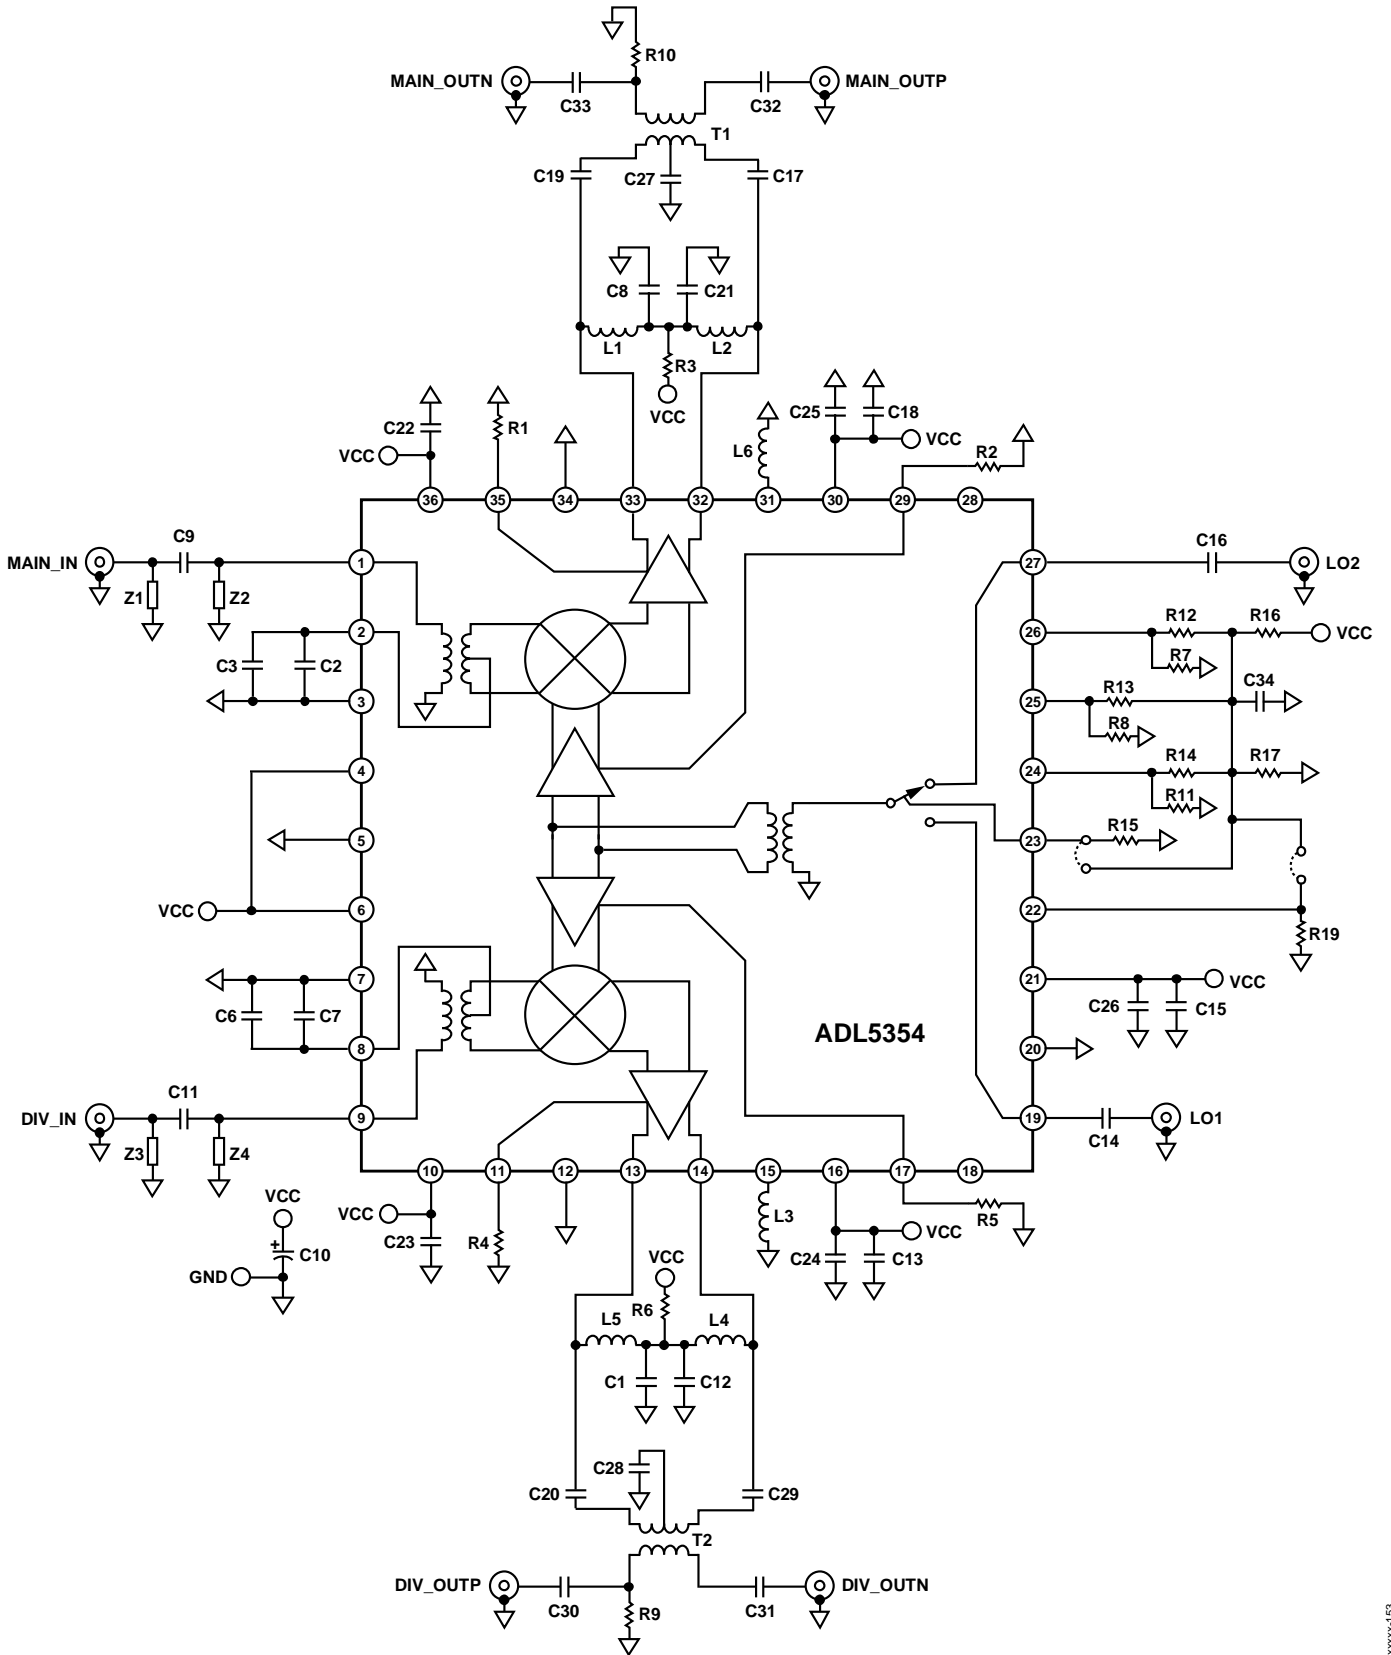

Figure 10. Typical Application Circuit
The ADL5354 mixer is designed to downconvert radio frequencies (RF) primarily between 2300 MHz and 2900 MHz to lower intermediate frequencies (IF) between 30 MHz and 450 MHz. Figure 10 depicts the basic connections of the mixer. It is recommended to ac-couple the RF and LO input ports to prevent non-zero dc voltages from damaging the RF balun or LO input circuit. The RFIN matching network consists of a series 1.8 pF capacitor and a shunt 15 nH inductor to provide the optimized RF input return loss for the desired frequency band.
that is approximately 6 dB higher than the power conversion gain, as shown in Table 3. When a 50  $\Omega$  output impedance is needed, use a 4:1 impedance transformer, as shown in Figure 10.